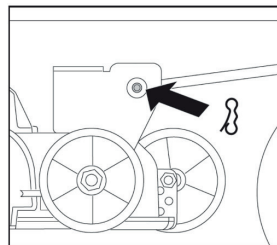
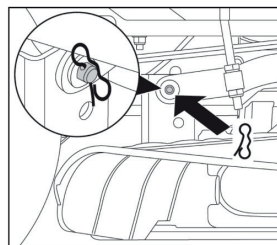
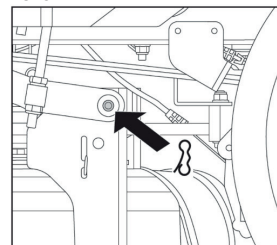

FIG.25A
FIG.25B
FIG.25C
4. RETIRE LOS 3 PASADORES DE ENGANCHE, 2 A LA DERECHA (FIG. 25A Y FIG. 25B) Y 1 A LA IZQUIERDA (FIG. 25C) QUE SUJETAN LA PLATAFORMA.